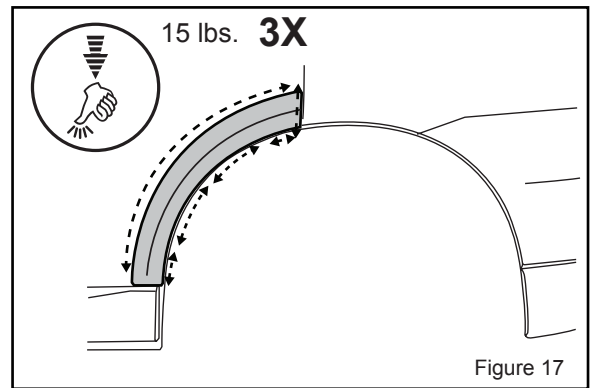

Figure 17
- Apply pressure along area where tape is located. See dotted lines Figure 17.